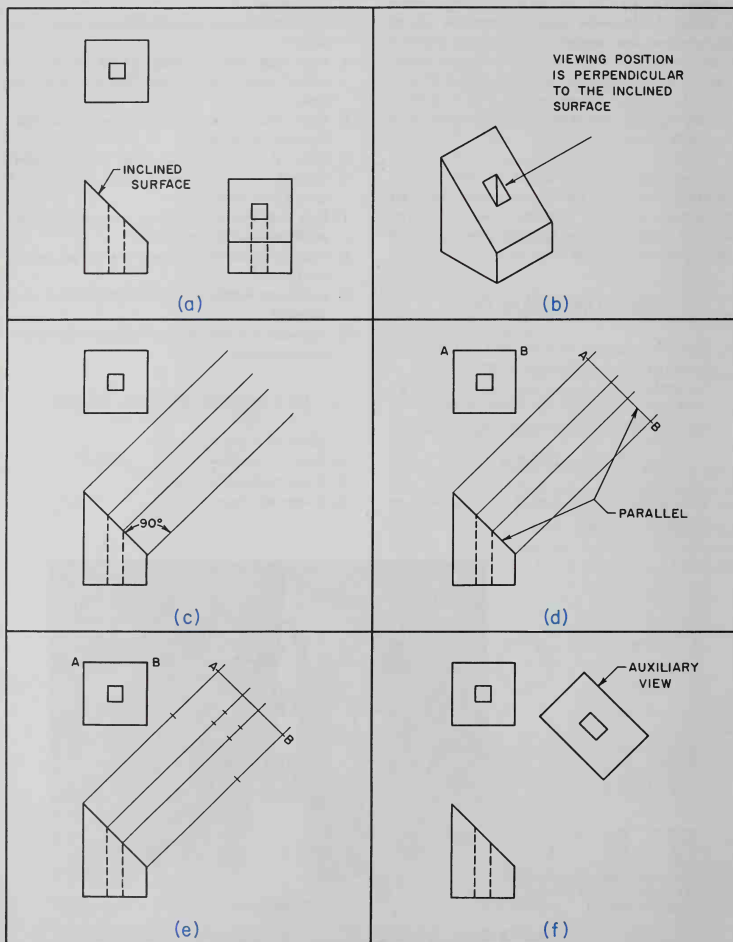

Fig. 5-1. Drawing an auxiliary view.
Auxiliary views are used in obtaining the true size and shape of inclined surfaces such as the one shown in Fig. 5-1.
Suppose you had to lay out on a piece of sheet metal the true size and shape of the inclined surface in Fig. 5-1 (a). A true representation of this surface does not appear in any of the three views. However, an auxiliary view can be projected which would be a true representation. Let's see how it is developed.
1. The inclined surface is viewed from a position perpendicular to the surface, Fig. 5-1 (b).
needed to project the auxiliary view; the view in which the inclined surface appears as a line (front view, Fig. 5-1 (a)) and one other view, such as the top view.
3. Construction lines (very light) are projected perpendicular from the inclined surface, Fig. 5-1 (c).
4. The reference (back-edge) line AB is drawn parallel to the inclined surface, Fig. 5-1 (d).
5. The dividers are used in transferring widths from the top view, Fig. 5-1 (e). Care is taken not to punch holes in the drawing with the divider points.
6. Lines are drawn to complete the auxiliary view in Fig. 5-1 (f). Actually, more than the inclined surface is visible from the auxiliary plane, but usually only the inclined surface is shown.